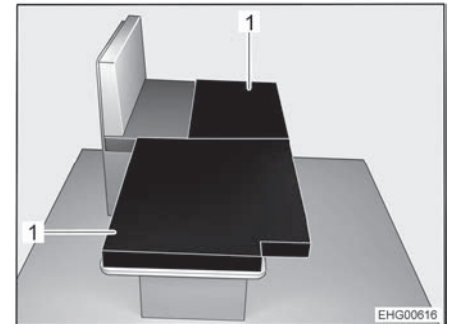

Fig. 82 After conversion
- Place the two additional cushions (Fig. 82,1) on the lowered table as shown in the image.